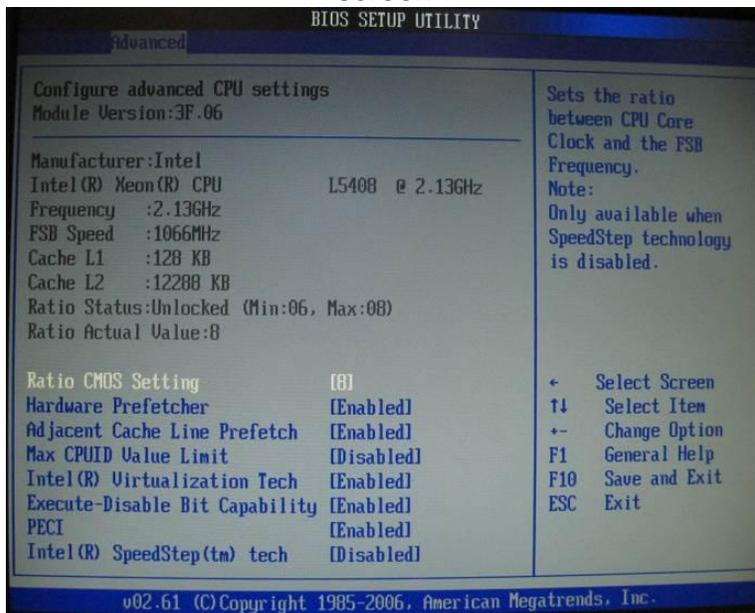

Figure 8-13 Advanced CPU Settings
- On the **CPU Configuration** screen, **No Change**, Press **Enter**. (Figure 8-13). Then press **Escape** to return to **Advanced Settings** screen